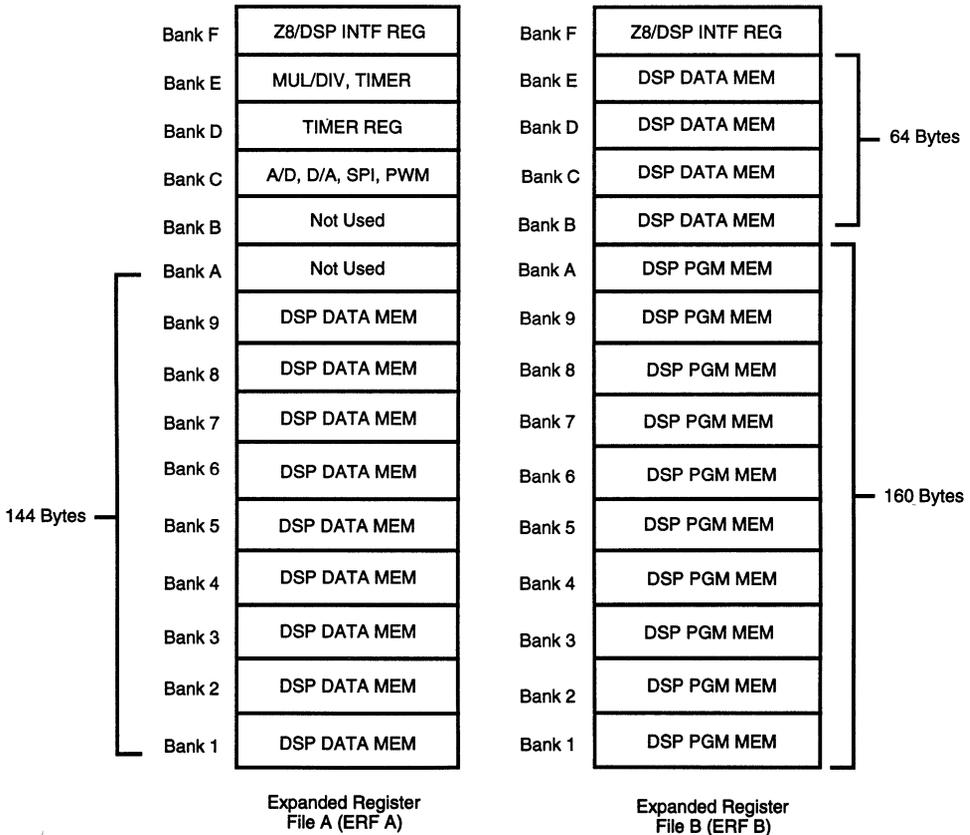

Figure 13. DSP Program and Data Memory
1. **DSP Program Memory.** The size of this memory is 512 bytes. This memory space is mapped into ERF-B, C, and D of the Z8. It occupies bank 1 through bank A in ERF-B, bank 1 through bank E in ERF-C, and bank 1 through bank 8 in ERF-D. (Figures 13 and 14).